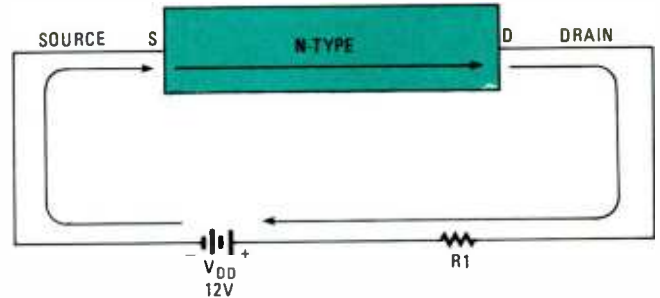

Fig. 20—This is the basic structure of an N-type FET.
A JFET consists of a bar of N-type or P-type semiconductor material. Figure 20 shows a bar of N-type material to which has been connected a 12-volt DC power supply. Resistor R1 sets the current level. The negative end of the bar is called the *source* (S), while the positive end is called the *drain* (D). They are the two main terminals of the JFET.